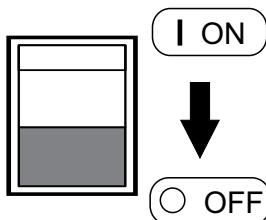

Figure 41. Idle Control Switch ON (GFCI Test)
2. Place idle control switch (Figure 41) in the **OFF** position. This will allow the engine speed to run at about 3600 RPM's (**high speed**).